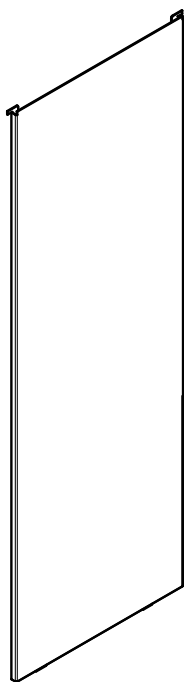
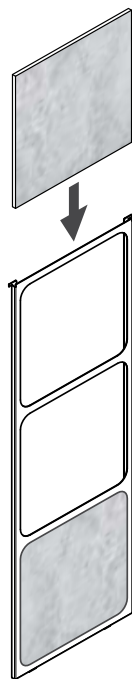

Figure 21.1
Figure 21.2
Your appliance ships with two different side options, one is a solid side panel (Figure 21.1) and tile side panel (Figure 21.2). There are two of each and no left or right side, these can be changed at anytime.
3. Stack non-combustible material tiles in tile frame as shown in Figure 21.2.